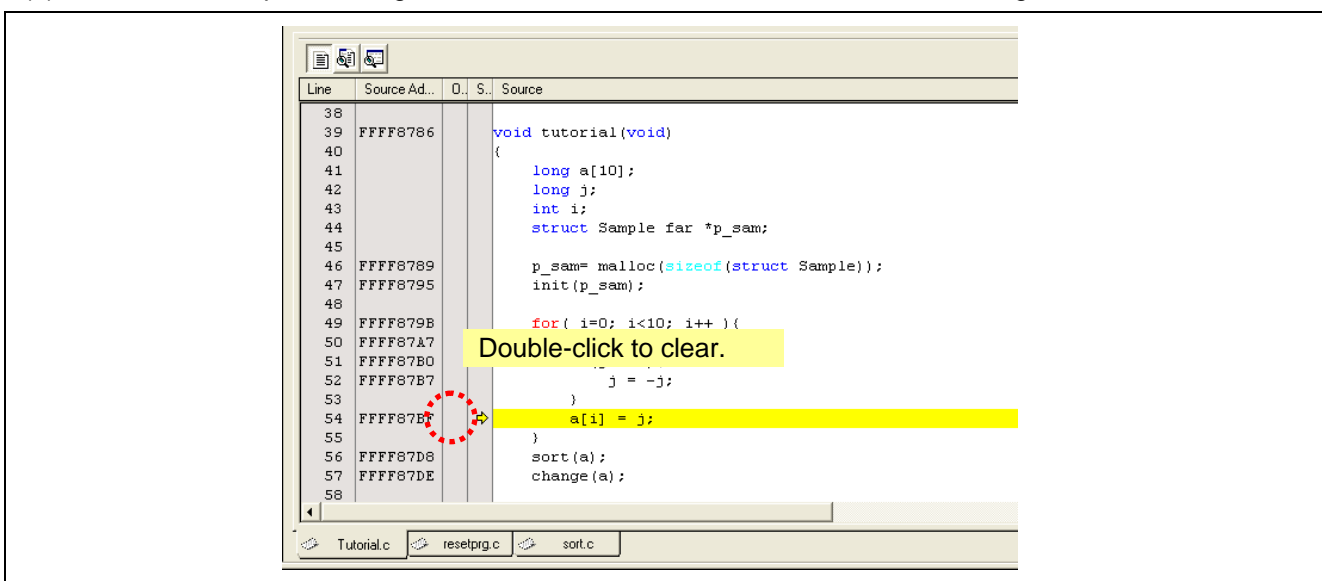

Figure 4.21 Clearing a Breakpoint Setting
(3) To clear a breakpoint setting, double-click on the blue-filled circle as shown in Figure 4.21.